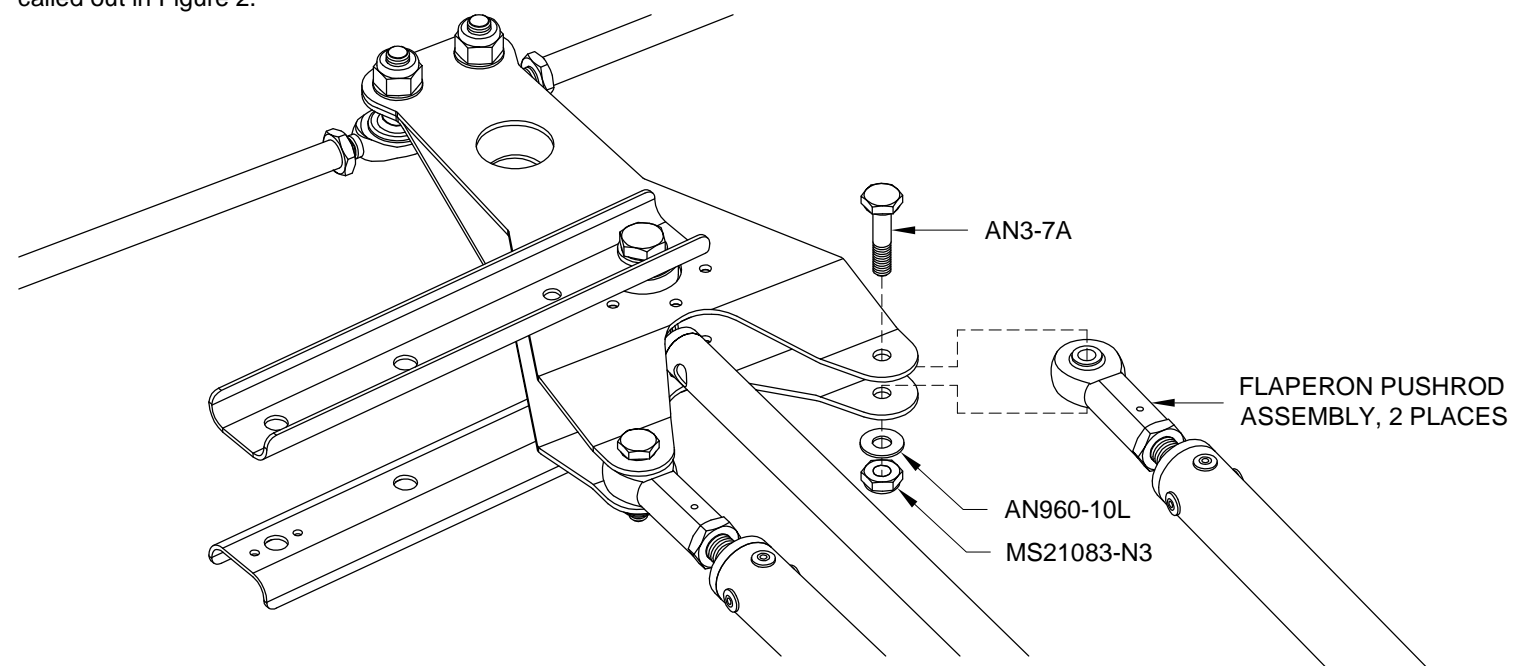

FIGURE 2: ATTACHING THE FLAPERON PUSHROD ASSEMBLIES
Step 3: Bolt the forward end of both Flaperon Pushrod Assemblies to the F-1263A & B Flaperon Mixer Bellcranks using the hardware called out in Figure 2.